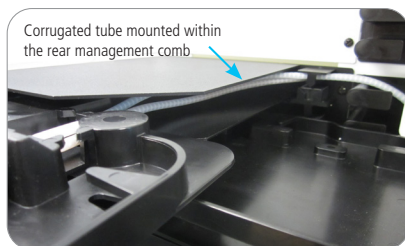

Figure 15.
- Route the corrugated tube through to the rear of the module and into the rear fibre management comb. See **Figure 15**.